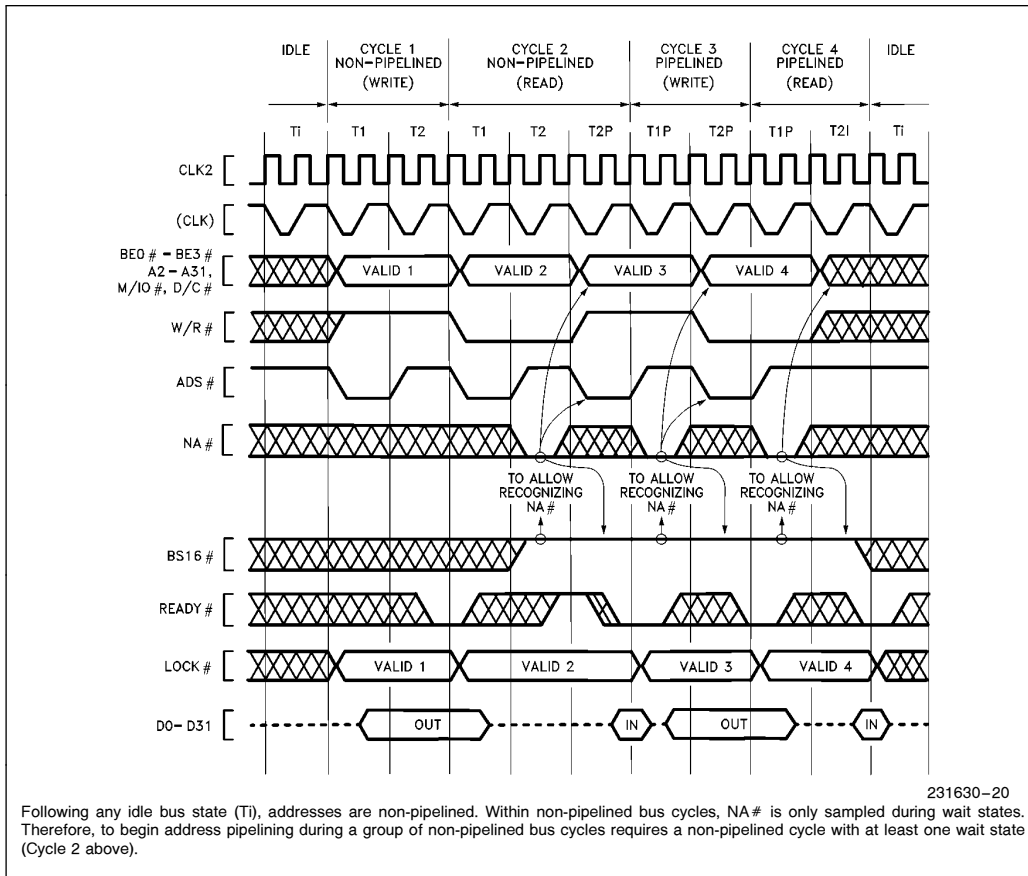
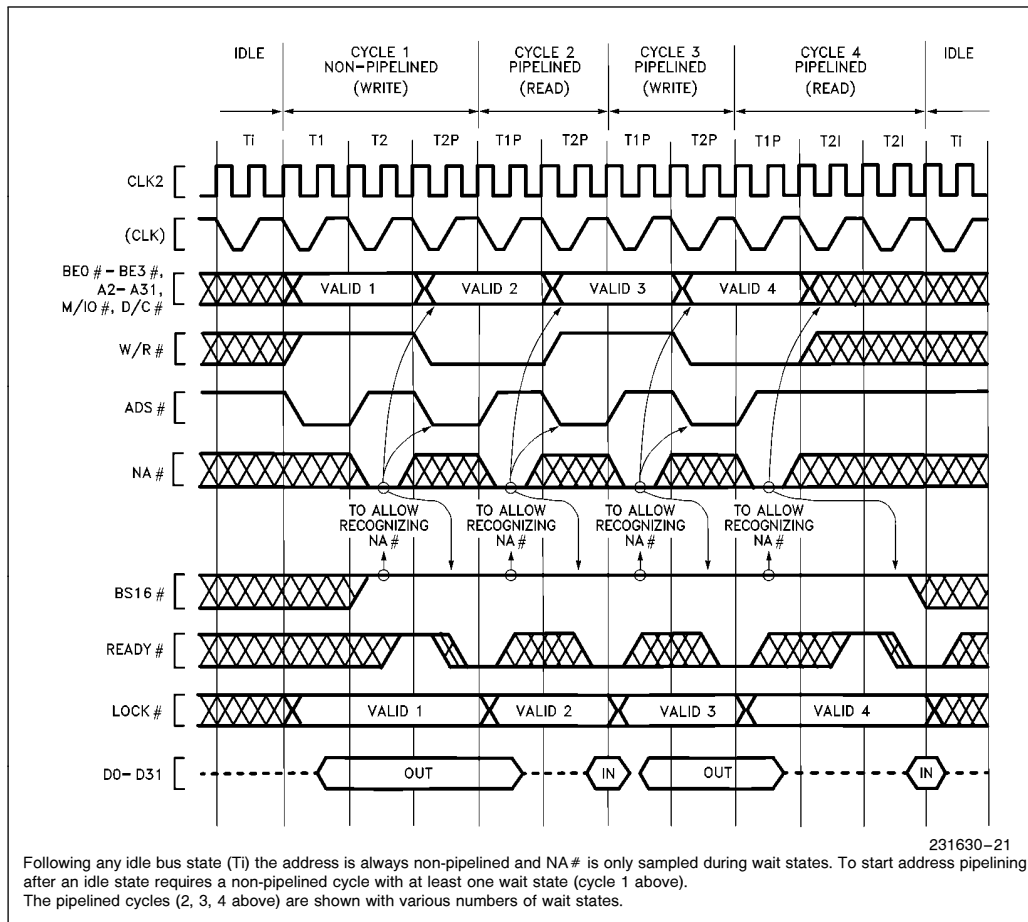
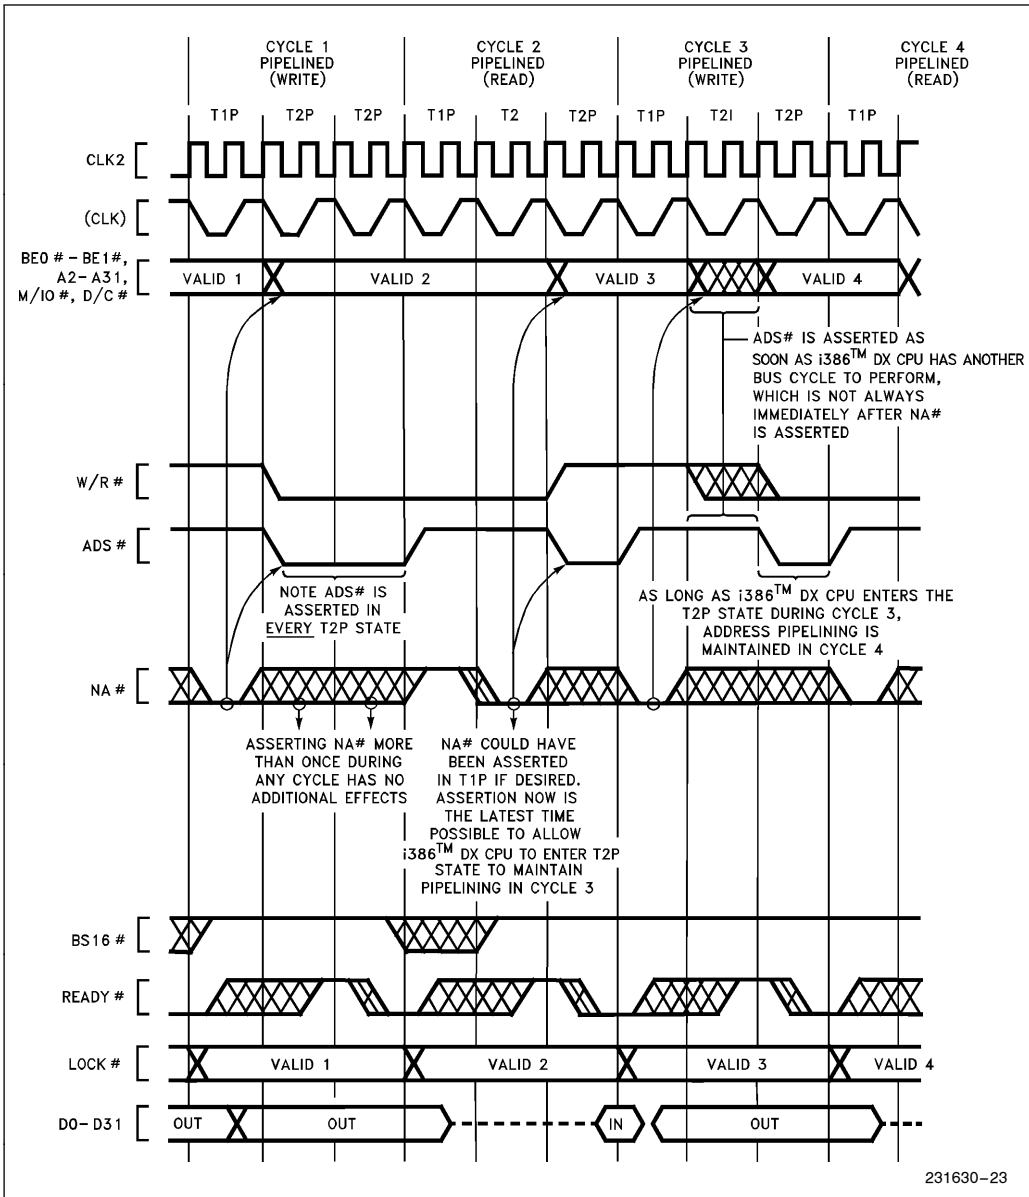

Figure 5-16. Transitioning to Pipelined Address During Burst of Bus Cycles
Figure 5-17. Fastest Transition to Pipelined Address Following Idle Bus State
Figure 5-19. Details of Address Pipelining During Cycles with Wait States
Once a bus cycle is in progress and the current address has been valid for at least one entire bus state, the $NA\#$ input is sampled at the end of every phase one until the bus cycle is acknowledged. During non-pipelined bus cycles, therefore, $NA\#$ is sampled at the end of phase one in every T2. An example is Cycle 2 in Figure 5-16, during which $NA\#$ is sampled at the end of phase one of every T2 (it was asserted once during the first T2 and has no further effect during that bus cycle).
- 1) For $NA\#$ to be sampled asserted, $BS16\#$ must be negated at that sampling window (see Figure 5-16 Cycles 2 through 4, and Figure 5-17 Cycles 1 through 4). If $NA\#$ and $BS16\#$ are both sampled asserted during the last T2 period of a bus cycle, $BS16\#$ asserted has priority. Therefore, if both are asserted, the current bus size is taken to be 16 bits and the next address is not pipelined.
- 2) The next address may appear as early as the bus state after NA# was sampled asserted (see Figures 5-16 or 5-17). In that case, state T2P is entered immediately. However, when there is not an internal bus request already pending, the next address will not be available immediately after NA# is asserted and T2I is entered instead of T2P (see Figure 5-19 Cycle 3). Provided the current bus cycle isn't yet acknowledged by READY# asserted, T2P will be entered as soon as the Intel386 DX does drive the next address. External hardware should therefore observe the ADS# output as confirmation the next address is actually being driven on the bus.
- 3) Once NA# is sampled asserted, the Intel386 DX commits itself to the highest priority bus request that is pending internally. It can no longer perform another 16-bit transfer to the same address should BS16# be asserted externally, so thereafter must assume the current bus size is 32 bits. Therefore if NA# is sampled asserted within a bus cycle, BS16# must be negated thereafter in that bus cycle (see Figures 5-16, 5-17, 5-19). Consequently, do not assert NA# during bus cycles which must have BS16# driven asserted. See **5.4.3.6 Dynamic Bus Sizing with Pipelined Address**.
- 4) Any address which is validated by a pulse on the Intel386 DX ADS# output will remain stable on the address pins for at least two processor clock periods. The Intel386 DX cannot produce a new address more frequently than every two processor clock periods (see Figures 5-16, 5-17, 5-19).
- 5) Only the address and bus cycle definition of the very next bus cycle is available. The pipelining capability cannot look further than one bus cycle ahead (see Figure 5-19 Cycle 1).
The transition to pipelined address is shown functionally by Figure 5-17 Cycle 1. Note that Cycle 1 is used to transition into pipelined address timing for the subsequent Cycles 2, 3 and 4, which are pipelined. The NA# input is asserted at the appropriate time to select address pipelining for Cycles 2, 3 and 4.
Once a bus cycle is in progress and the current address has become valid, the NA# input is sampled at the end of every phase one, beginning with the next bus state, until the bus cycle is acknowledged. During Figure 5-17 Cycle 1 therefore, sampling begins in T2. Once NA# is sampled asserted during the current cycle, the Intel386 DX is free to drive a new address and bus cycle definition on the bus as early as the next bus state. In Figure 5-16 Cycle 1 for example, the next address is driven during state T2P. Thus Cycle 1 makes the transition to pipelined address timing, since it begins with T1 but ends with T2P. Because the address for Cycle 2 is available before Cycle 2 begins, Cycle 2 is called a pipelined bus cycle, and it begins with T1P. Cycle 2 begins as soon as READY# asserted terminates Cycle 1.
Example transition bus cycles are Figure 5-17 Cycle 1 and Figure 5-16 Cycle 2. Figure 5-17 shows transition during the very first cycle after an idle bus state, which is the fastest possible transition into address pipelining. Figure 5-16 Cycle 2 shows a transition cycle occurring during a burst of bus cycles. In any case, a transition cycle is the same whenever it occurs: it consists at least of T1, T2 (you assert NA# at that time), and T2P (provided the Intel386 DX has an internal bus request already pending, which it almost always has). T2P states are repeated if wait states are added to the cycle.
Note three states (T1, T2 and T2P) are only required in a bus cycle performing a **transition** from non-pipelined address into pipelined address timing, for example Figure 5-17 Cycle 1. Figure 5-17 Cycles 2, 3 and 4 show that address pipelining can be maintained with two-state bus cycles consisting only of T1P and T2P.
Once a pipelined bus cycle is in progress, pipelined timing is maintained for the next cycle by asserting NA# and detecting that the Intel386 DX enters T2P during the current bus cycle. The current bus cycle must end in state T2P for pipelining to be maintained in the next cycle. T2P is identified by the assertion of ADS#. Figures 5-16 and 5-17 however, each show pipelining ending after Cycle 4 because Cycle 4 ends in T2I. This indicates the Intel386 DX didn't have an internal bus request prior to the acknowledgement of Cycle 4. If a cycle ends with a T2 or T2I, the next cycle will not be pipelined.